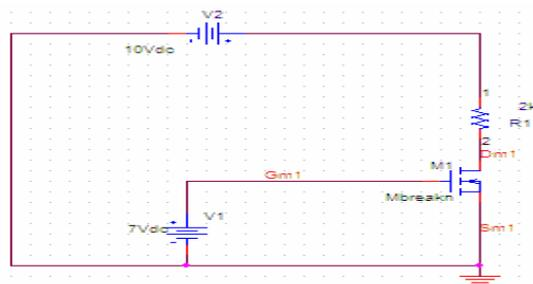

Figure 16
- When you change the parameters and set the circuit, it will look like the figure 16. Now you are ready to start a simulation.